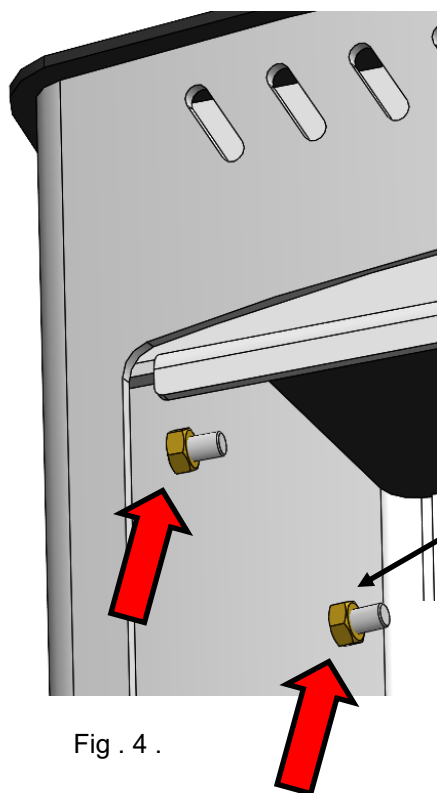

Fig . 4 .
Step 2 : Open the fire door and working on the left hand side, locate the 2x side mount nuts, these are located towards the top of the side. Untighten the 2x M8 nuts using a 13mm spanner. There is no need to remove the nut. See Fig. 4.